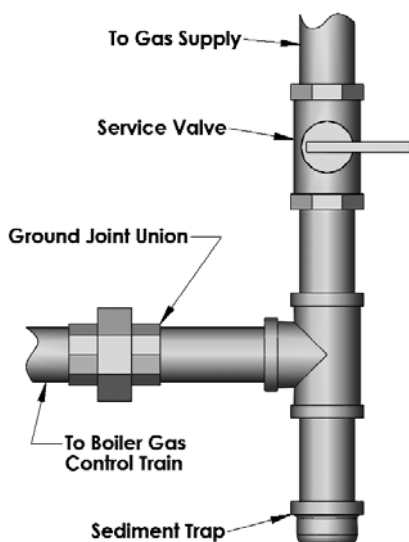
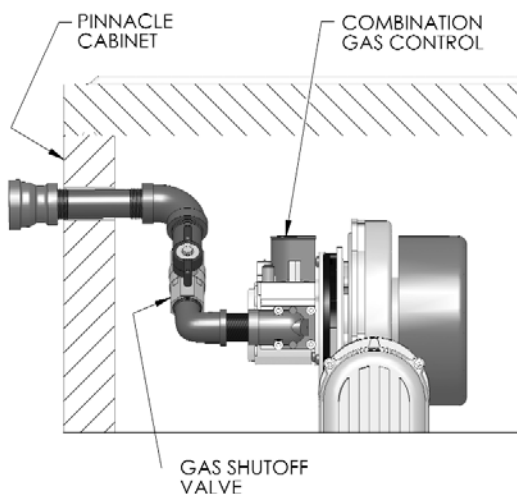

Figure 4.1: Gas Supply Piping – Sediment Trap
Figure 4.2: PI-80/PI-140/PI-199 Gas Valve Shut Off
2. Install a sediment trap as shown in Figure 4.1. Be sure to allow clearance from the floor for removal of the pipe cap.
4. Install a service valve as shown in Figure 4.1 to allow the gas supply to be interrupted for service.
7. Figure 4.2 and 4.3 are illustrations of the gas shutoff valve for the Pinnacle Boiler. This valve is to be used in addition to the gas service valve shown in Figure 4.1.